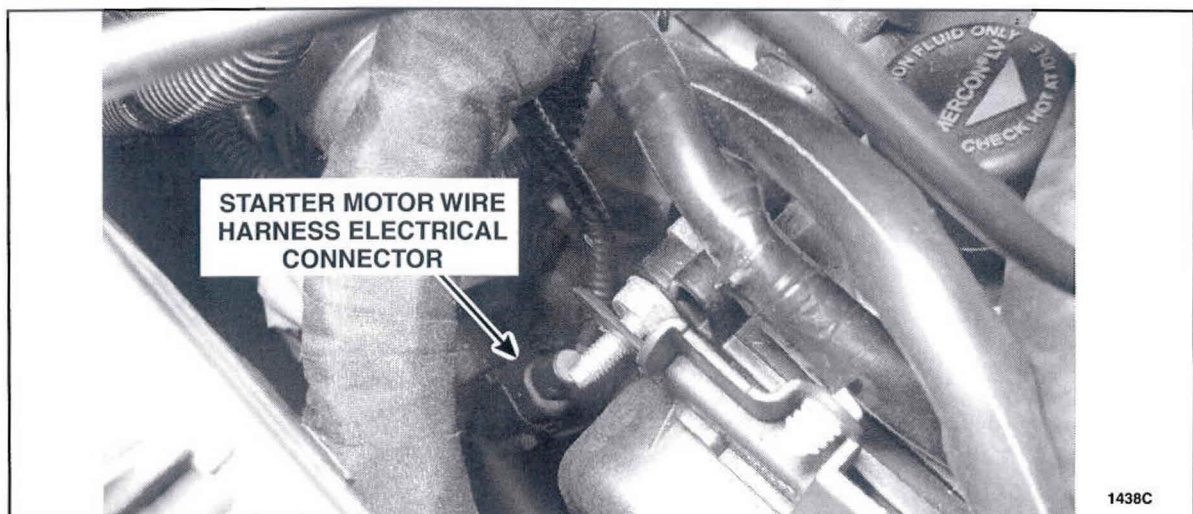

FIGURE 3
6. Disconnect the starter motor wire harness electrical connector. See Figure 3.